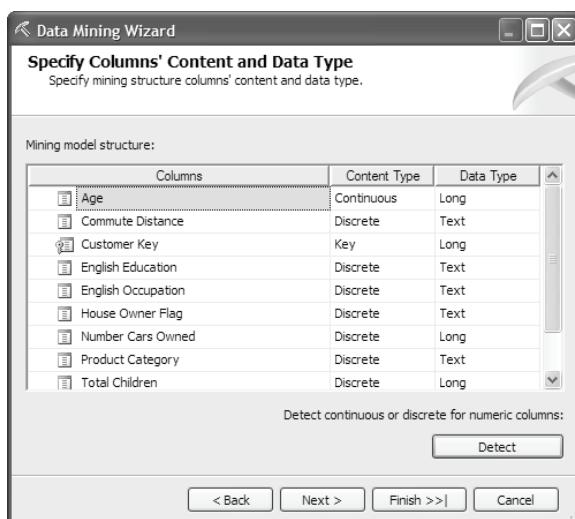

Figure 7.13 Click the Detect button to let the Data Mining Wizard probe the database schema and detect the columns' content type and data type.
8. In the Suggest Related Columns dialog, select all columns with a score greater than zero and click OK to return to the Specify the Training Data step. Click Next to advance to the Specify Columns' Content and Data Type step (Figure 7.13).